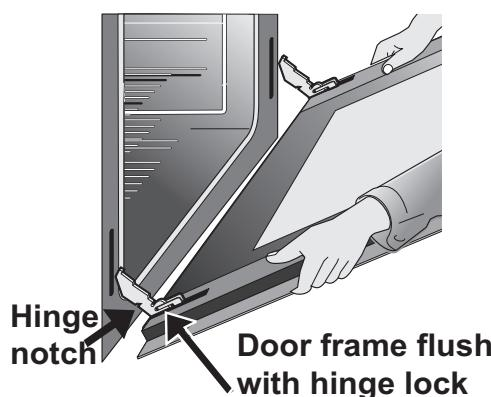

Figure 27: Remove door position
4. Pull the bottom of the door toward you while rotating the top of the door toward the appliance to completely disengage the hinge levers (Figure 27).
1. Firmly grasp both sides of oven door along the door sides. Do not use the oven door handle (Figure 27).
2. Hold the oven door at the same angle as the removal position. Carefully insert the hinge levers into the oven frame until you feel the hinge levers are seated into the hinge notches. The hinge arms must be fully seated into the hinge notches before the oven door can be fully opened. (Figure 27).